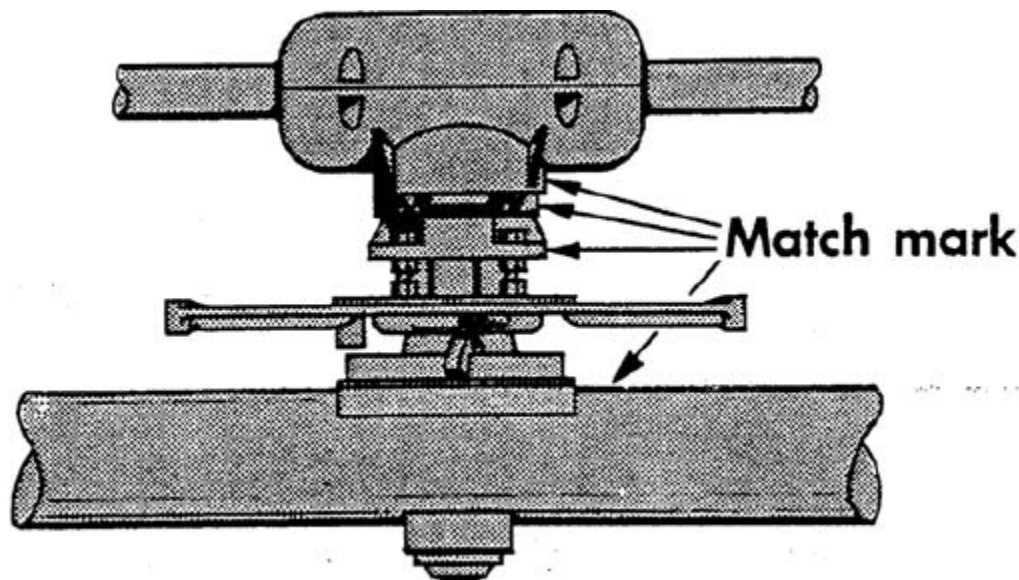

Figure 2: Match Mark Locations
| Figure 2: Match Mark Locations..... | 5 |
2. Using any convenient means, match mark the lower parts of the hinge assembly with the switch arm and the rotating hub to ensure correct re-assembly as shown in Figure 2. Also match mark one blade tip with its jaw.